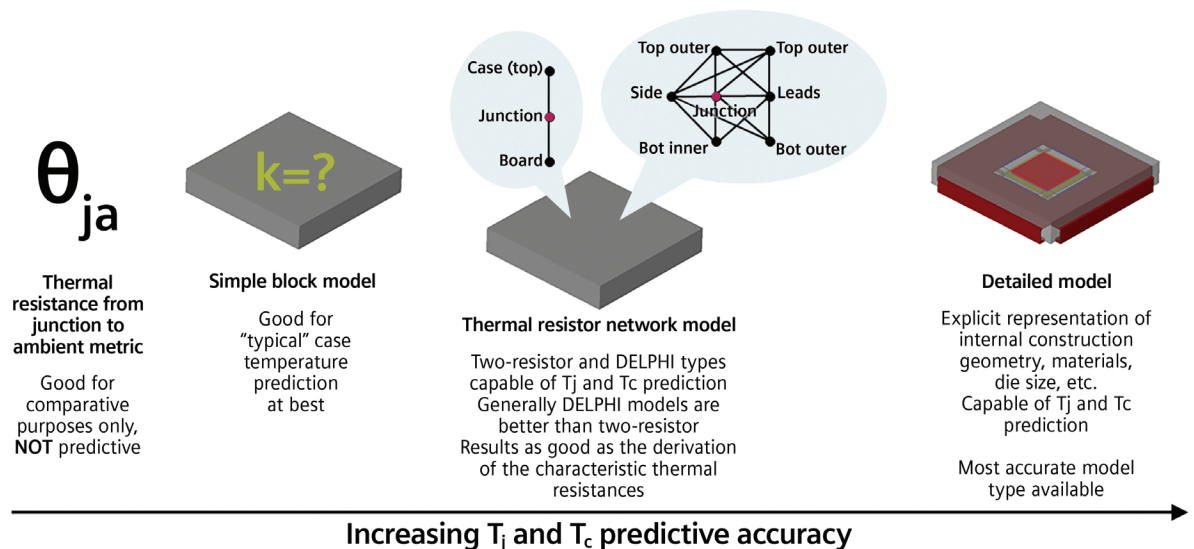

Figure 3: Fidelity hierarchy of package thermal information for design.
For components without a heatsink the most relevant thermal metric to compare is the junction-to-board resistance.3 For components that are expected to have a heatsink the junction-to-case resistance is the most relevant, as the resistance is usually defined for the face that is in contact with the heatsink.4 For transistor outline (TO) type packages this face is normally soldered to the PCB. If both of these metrics are available, a Joint Electron Device Engineering Council (JEDEC) standard two-resistor model (see figure 3) can be created and the thermal model re-run to get a first estimate of junction temperature.5